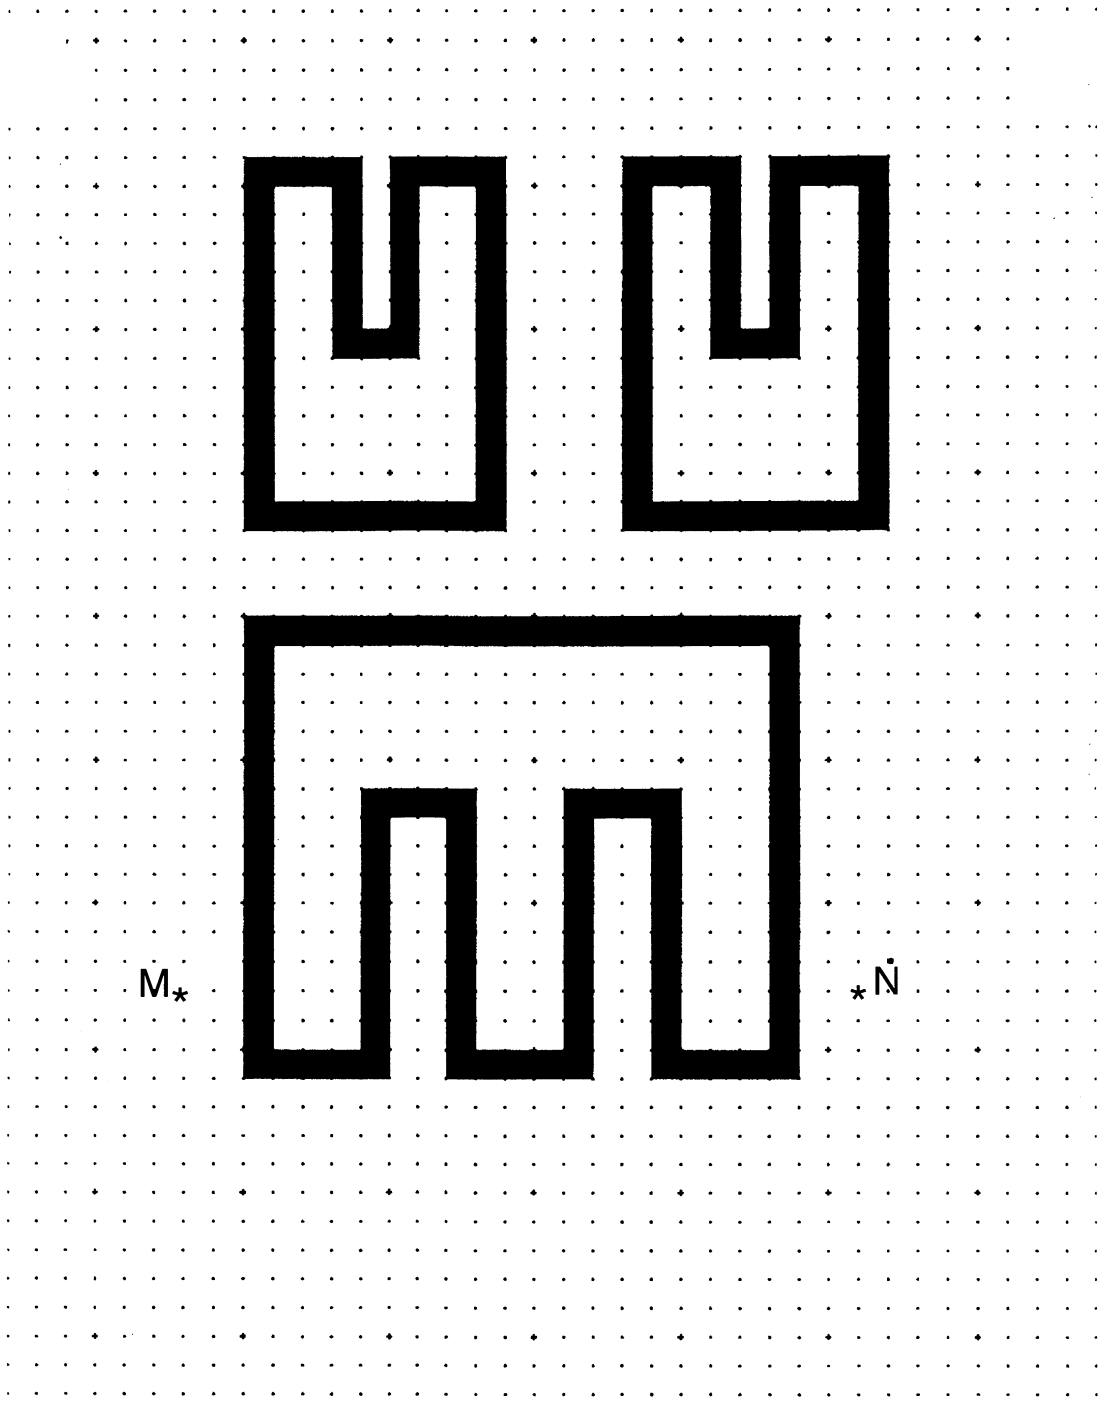

Fig. 2
(b) Figure 2 is the plan view of a SiC coated perfectly oriented (100) silicon wafer in which the black pattern has been etched through the SiC layer. The small grid points are $10\ \mu\text{m}$ apart. The silicon is then etched to termination using an anisotropic etchant which is perfectly selective against SiC, and which has zero etch for (111) type crystal planes in the silicon.
- (ii) Sketch a cross section through the SiC/Si structure for case (i) along the line MN in Fig. 2.
- (iv) Consider case (iii) and an etch rate of $0.5\ \mu\text{m}$ per minute. If the (111) planes etch at 10% of this rate, make an approximate calculation and hence plot the depth of the deepest part of the structure as a function of time. State any assumptions you make. [60%]